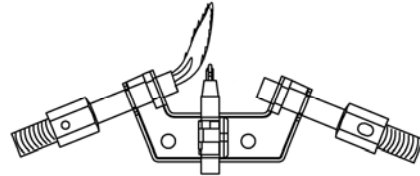

Figure 16 - Incorrect Pilot Flame Pattern
- Figure 16 shows an incorrect pilot flame pattern. The incorrect pilot flame is not touching the thermocouple. This will cause the thermocouple to cool. When the thermocouple cools, the heater will shut down.
- If the pilot flame is incorrect, as shown in Figure 16. Turn heater off (see To Turn off Gas to Appliance, page 16) See troubleshooting, page 19~21.